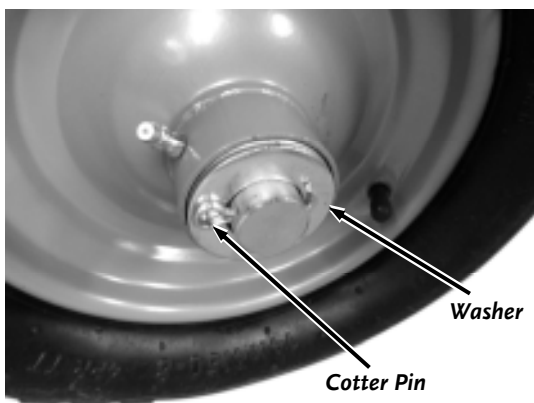

Figure 11
5. Secure the Wheel onto the Axle with a Cotter Pin. Use Pliers to bend the ends of the Cotter Pin to secure the Wheel (**Figure 11**).